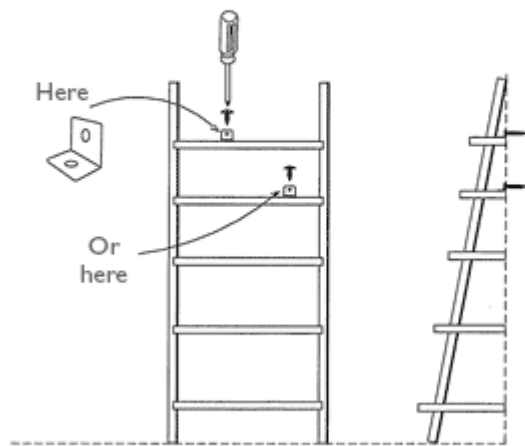

Figure 5
7. For safety, secure the desk to the wall with the drywall bracket (Figure 5). Find an appropriate location along a back edge of one of the top shelves; it does not need to be centered. Anchoring to a wall stud is best, but if you cannot find a stud, a drywall anchor will work as well.